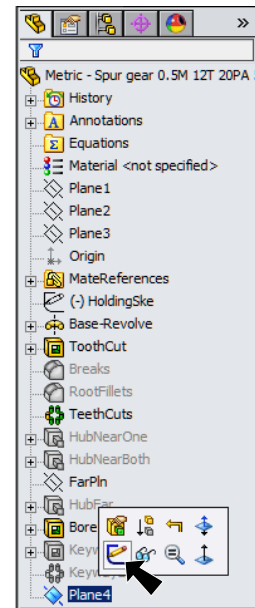
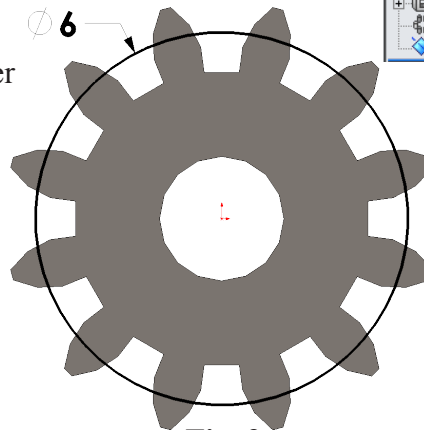

Fig. 8
Fig. 9
Step 1. Click new **Plane4**  in the Feature Manager and click **Sketch**  on the Context toolbar, **Fig. 8**.
Step 3. Click **Circle**  (S) on the Sketch toolbar.
Step 4. Draw a circle starting at the Origin , **Fig. 9**.
Step 5. Click **Smart Dimension**  (S) on the Sketch toolbar.
Step 6. Dimension circle **diameter 6**, **Fig. 9**.